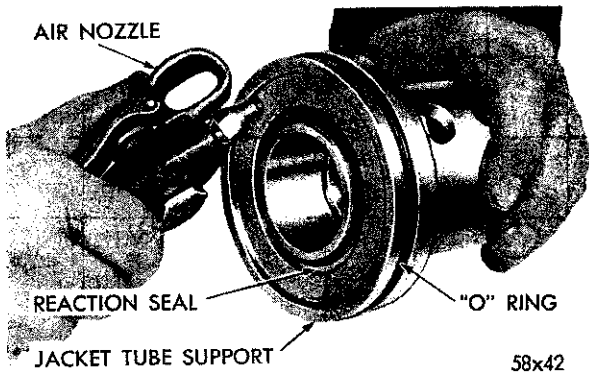

Fig. 17—Removing the Reaction Seal from the Jacket Support
(2) Remove the large "O" ring from the groove in the jacket support.
(3) Remove the reaction seal from the groove in the face of the jacket support with air pressure directed into the ferrule chamber (Fig. 17).
(4) Inspect all the grooves for burrs. Make sure the passage from the ferrule chamber to the upper reaction chamber is unobstructed.